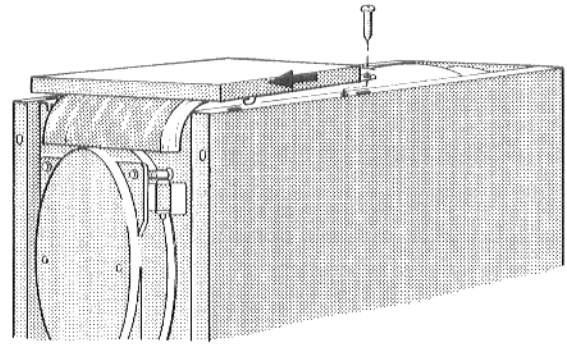

Fig. 8
- Place the front boiler hood left and right on the folded edge of the side panel, pull forward to the two hooks and slot into the slit in the side panel (Fig. 8).
- Screw the front boiler hood tight with two self-tapping screws in the clip brackets on the folded edge of the side panel (Fig. 8).